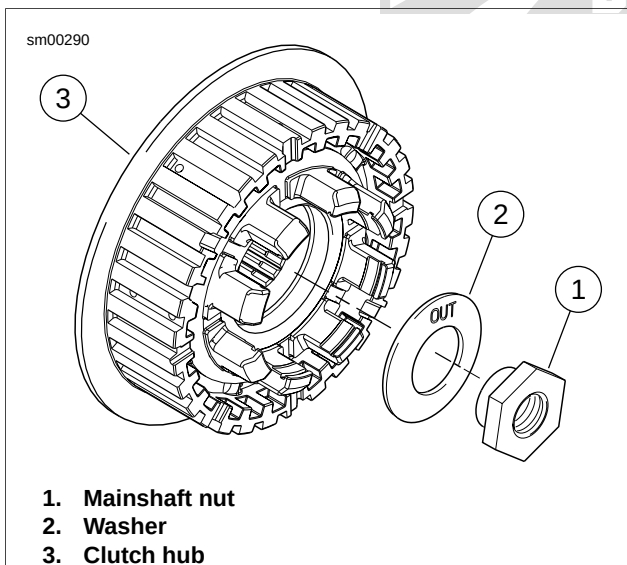
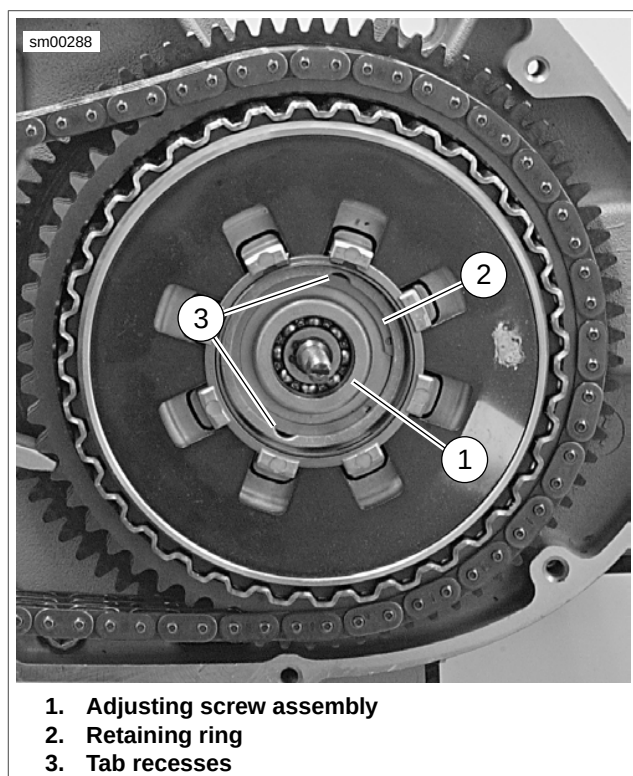

Figure 6-36. Mainshaft Nut and Washer
Figure 6-38. Clutch Adjusting Screw Assembly and Retaining Ring
See Figure 6-36. Washer must be installed with the word "out" facing the mainshaft nut or transmission may be damaged.
6. See Figure 6-36. Install mainshaft washer (2) and nut (1).
- b. Place washer (2) on mainshaft with the word "out" facing away from clutch hub.
7. Install nut (left-hand threads) (1). Tighten to 70-80 ft-lbs (94.9-108.5 Nm). Remove SPROCKET LOCKING LINK.
- a. See Figure 6-38. Align two tabs on perimeter of release plate with corresponding recesses (3) in pressure plate.